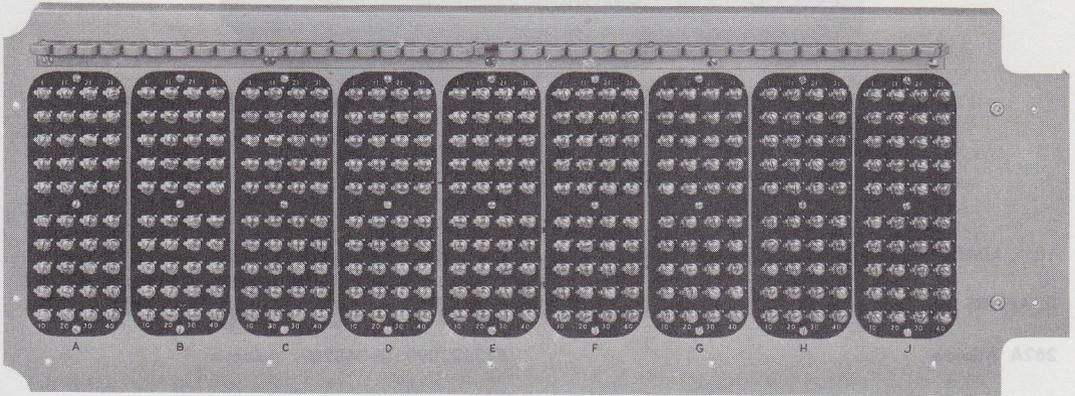

Fig. 39—Terminal Plate Assembly per ED-69366-50, Group 3
9.01 The terminal plate assembly per ED-69366-50, Group 3 (Fig. 39) is used primarily as a distribution terminal for the 26A apparatus mounting. It has a capacity of 360 terminals which provide for wire-wrapped connections on the back and screw terminal connections on the face. This assembly fastens into a floor-supported cabinet per